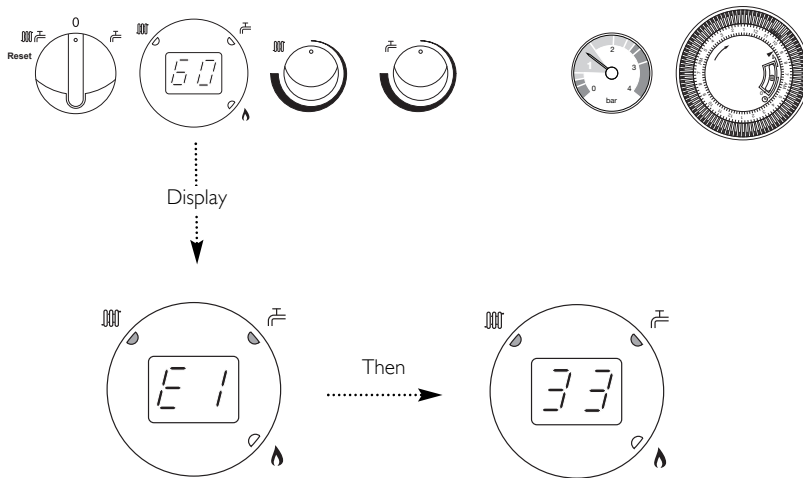

Fig. 5
1. If a fault occurs on the boiler an error code may be shown on the facia display (Fig. 5).